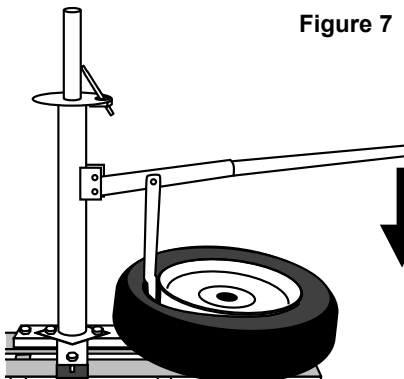

Figure 7
3. Set the Bead Breaker Shoe against the edge of tire rim. See Figure 7, below.
4. Insert Mounting/Demounting Bar into Bead Breaker Handle. Once inserted, push down on Bead Breaker Handle, allowing the Bead Breaker Shoe to lift tire bead off of rim. See Figure 7, below.